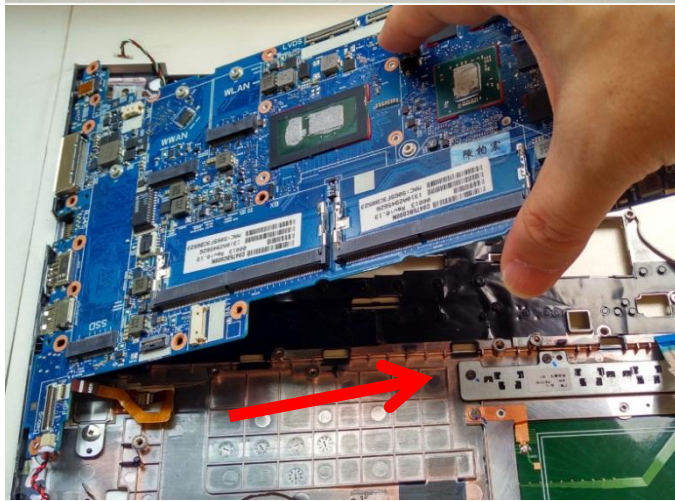

Fig.2
2. Disassemble M/B from top case(Fig.2).